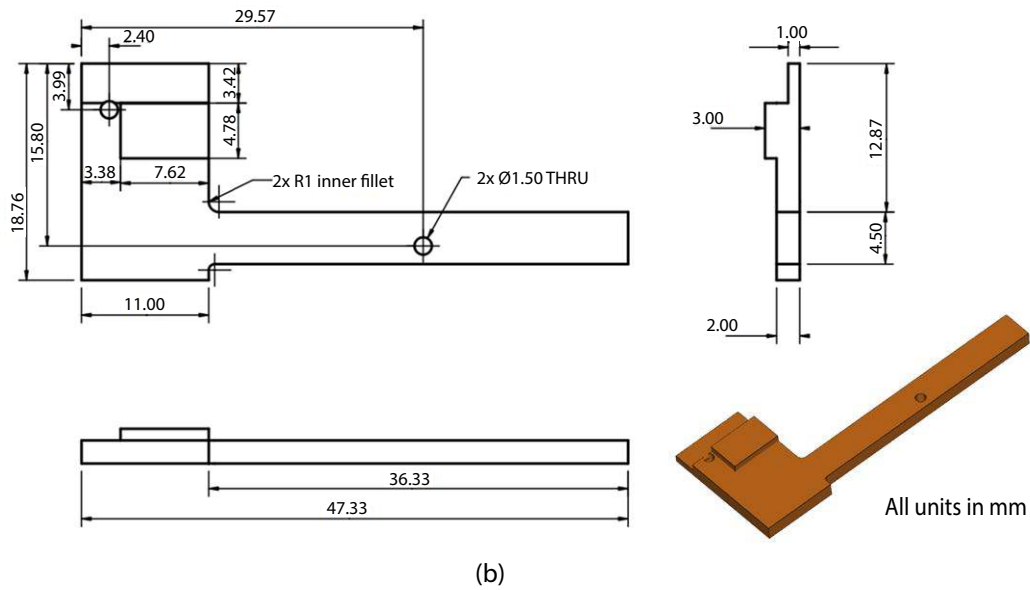

Figure 11. Integrated heat spreader drawing for (a) top-side and (b) bottom-side
**Note:** The two Cu heat spreaders for top and bottom sides are not identical (Figure 11)
The Microchip dsPIC33CK controller can be re-programmed using the MPLAB ICD4 or other Microchip programmer tools and through the 5-pin header on EPC9149 board shown below. RJ11 to ICSP adapter 02-10310-R1 from microchip is used to interface programmer and the main board (Fig. 11(b)). (Please refer to [www.microchip.com](http://www.microchip.com) for available options)